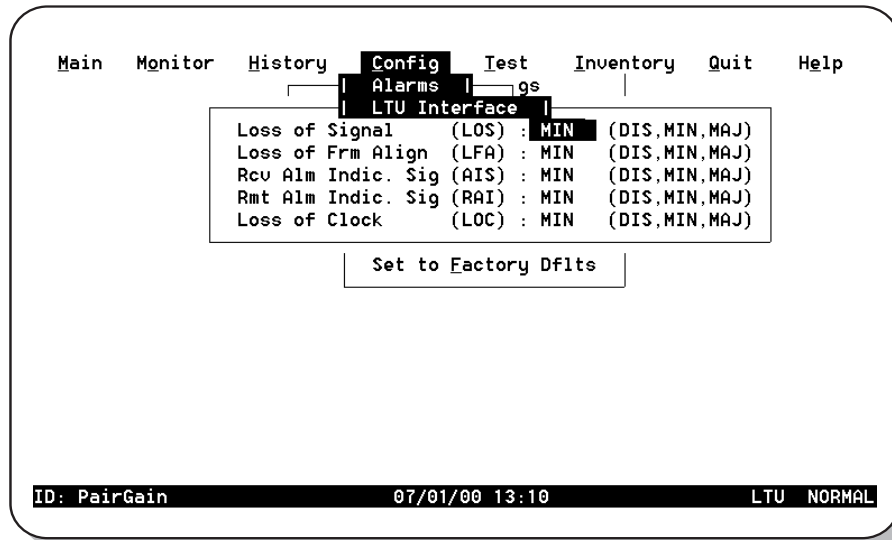

Figure 25. Config Alarms LTU Interface Menu
- **L** for the *Config Alarms LTU Interface* menu (Figure 25)